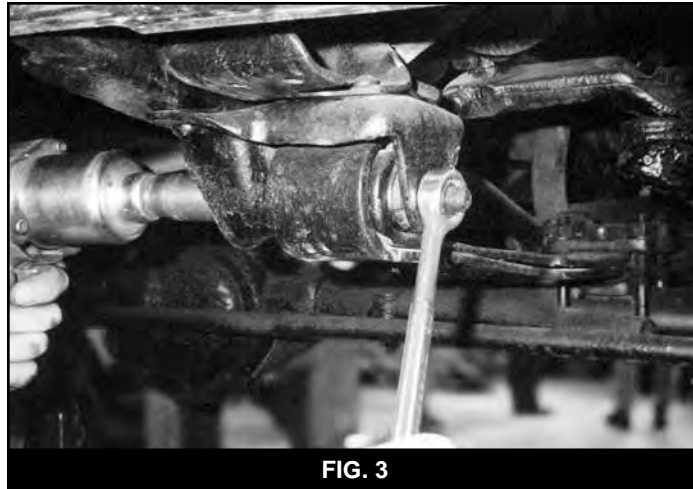

FIG. 3
6. Remove front spring to axle u-bolts. (Fig. 2) Remove spring to front hanger bolts, and shackle bolts. (Fig. 3) Save all hardware for reinstall. Remove front springs. 6" and up lift kits, remove sway bar to frame bushing bolts, save all hardware for reinstall. Support sway bar with strap to frame, or with jack stand.